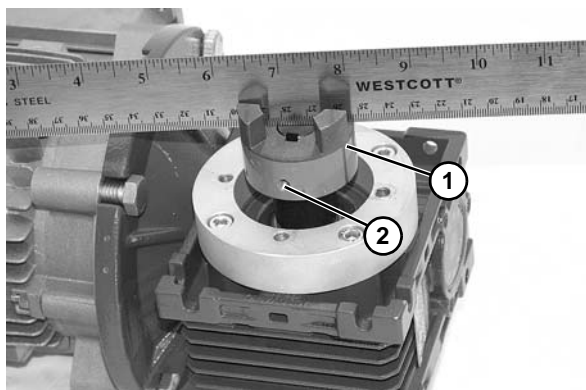

Figure 21
12. Install 3 jaw coupling (**Figure 21, item 1**) so that the end of the shaft is even with the coupling. Tighten set screws (**Figure 21, item 2**) to 45 in-lbs (5 N-m).